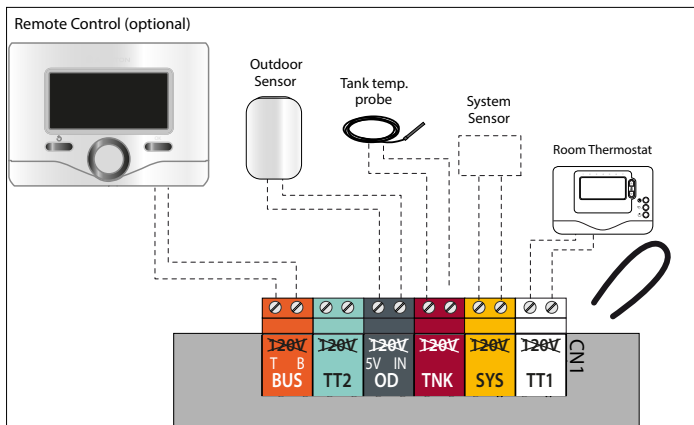

Figure 51 - Low Voltage Wiring Connections
- Connect the room thermostat wires to the terminals indicated in Table 18 and Figure 51.